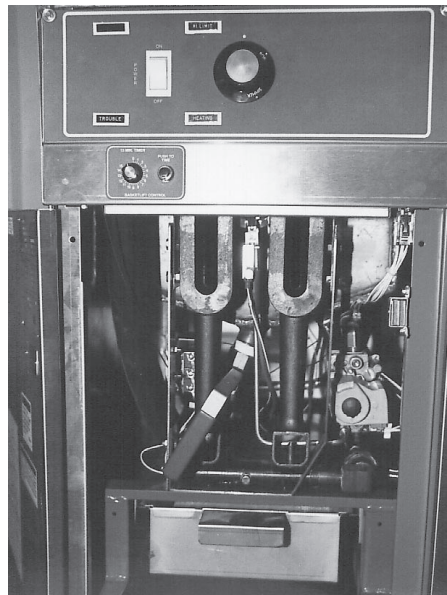

Fig. 47
2. Pull scrap box handle away from cooker. (Fig. 47)